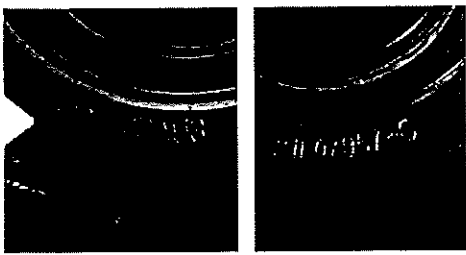

Figure 4 – Serial Number and Part Number Interpretation
A serial number and part number are engraved into the steering gear housing. See Figure 4 for further information on interpreting the serial number and part number.
- **Slave Gears:** Slave gears will not have an input shaft or a connection to a steering column. Note that slave gears are typically located on the passenger side of the vehicle. See Figure 4. A "P" in the part number represents a power steering gear. An "S" in the part number represents a slave gear. If the part number includes an "S," this indicates the steering gear is a slave gear. This type of gear does not fall within the recall parameters. See Figure 7 for an example of a slave gear part number and a side-by-side comparison of a power gear and a slave gear.
- **Steering Gears Outside the Date Range:** See Figure 4. If a steering gear serial number begins with 21 E (May 2021) or earlier (i.e. 21 D [April 2021], 21 C [March 2021], 21 B [February 2021], 21 A [January 2021], 20 L [December 2020], 20 K [November 2020], etc.), it does not fall within the recall parameters. If a steering gear serial number begins with 22 C (March 2022) or later (i.e. 22 D [April 2022], 22 E [May 2022], 22 F [June 2022], 22 G [July 2022], 22 H [August 2022], etc.), it does not fall within the recall parameters.